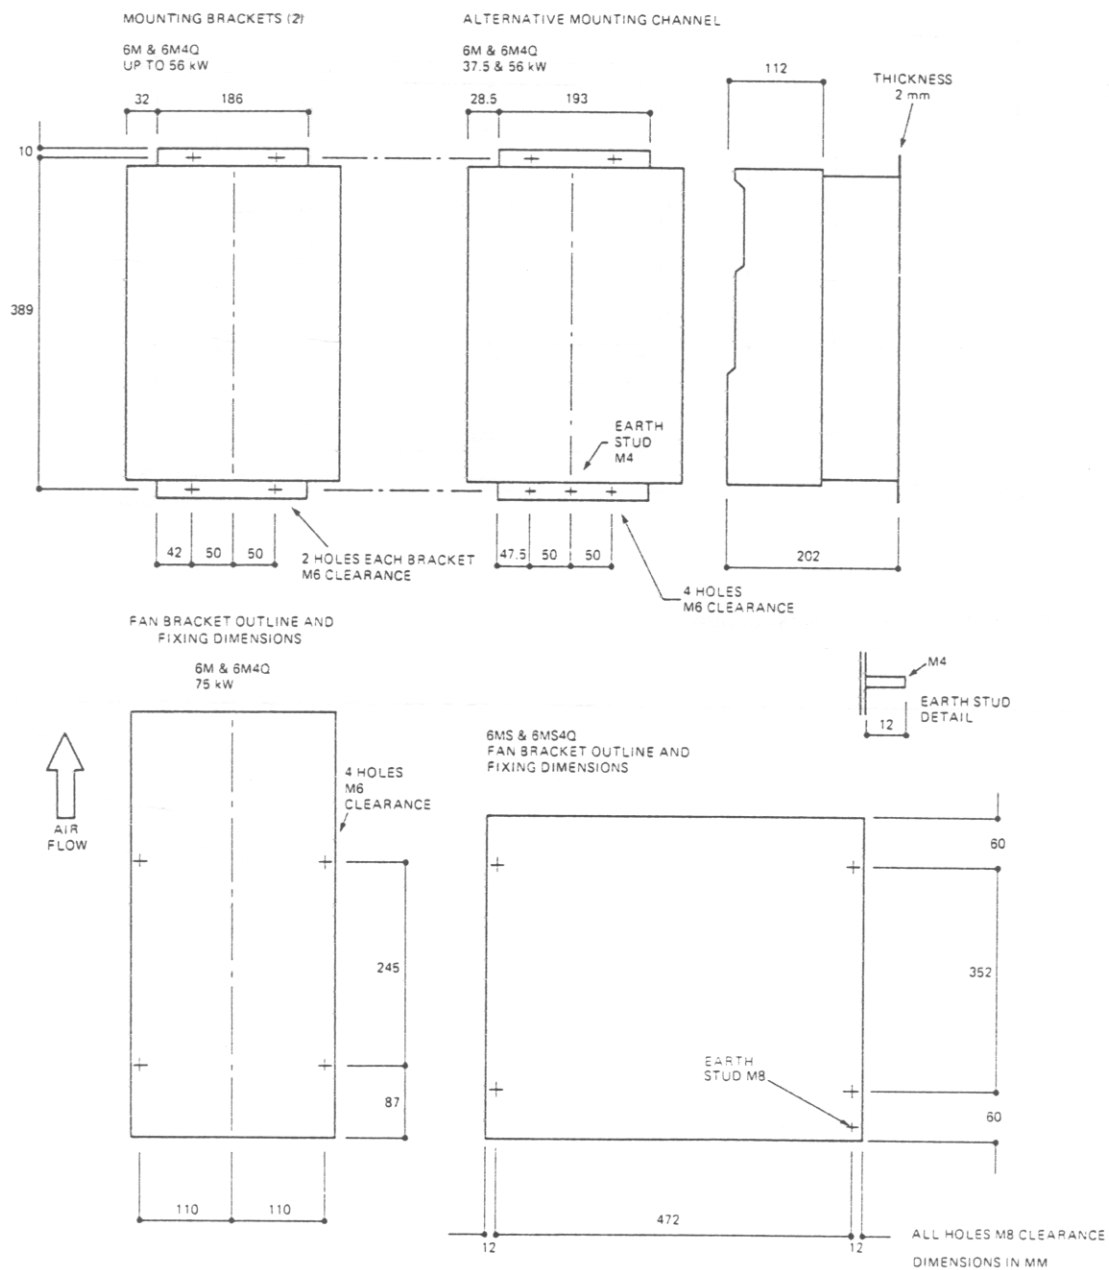

Fig. 7 MENTOR surface mounting arrangements and 6MS fan bracket (fixing holes)
- a) By means of the two fixing brackets supplied, as shown in Fig. 7.
The naturally-ventilated converters may be mounted by the means described in 5.1a and b above, or alternatively by means of the optional surface mounting channel, as shown in Fig. 7. The fan-cooled converters are surface mounted by means of the fan housing. Fixing dimensions are shown in Fig. 7.
- a) By means of the optional fan adaptor, as shown in Fig. 7.